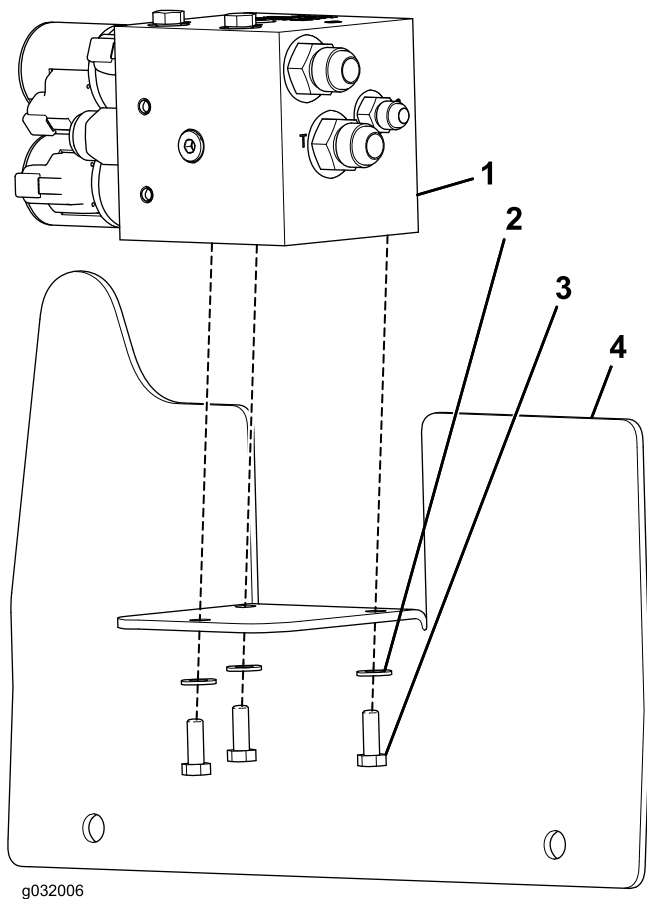

Figure 2
5. Install the solenoid valve and attached fittings onto the valve-mount plate with 3 hex-head bolts and 3 flat washers (Figure 2).